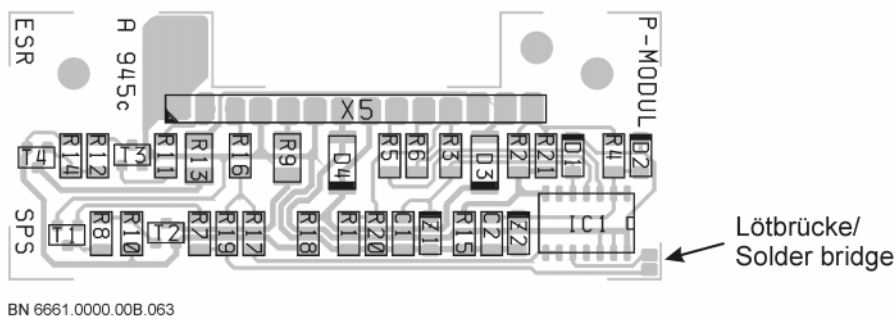

Fig. 14: Solder bridges on the P1 and P2 modules
- connect the two soldering areas labeled “Be” on the polarity module, see fig. 14.